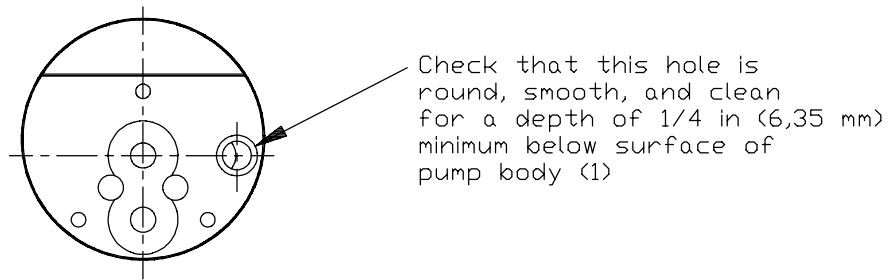

Figure 5
- 2.7.4 Inspect pressure regulator hole in body assembly (1). This hole is precisely honed for size, smoothness of finish, and roundness. These conditions apply to a depth of 1/4 in. (6.35 mm) where O-ring (17) of piston (15) operates. (Refer to figure 5.)